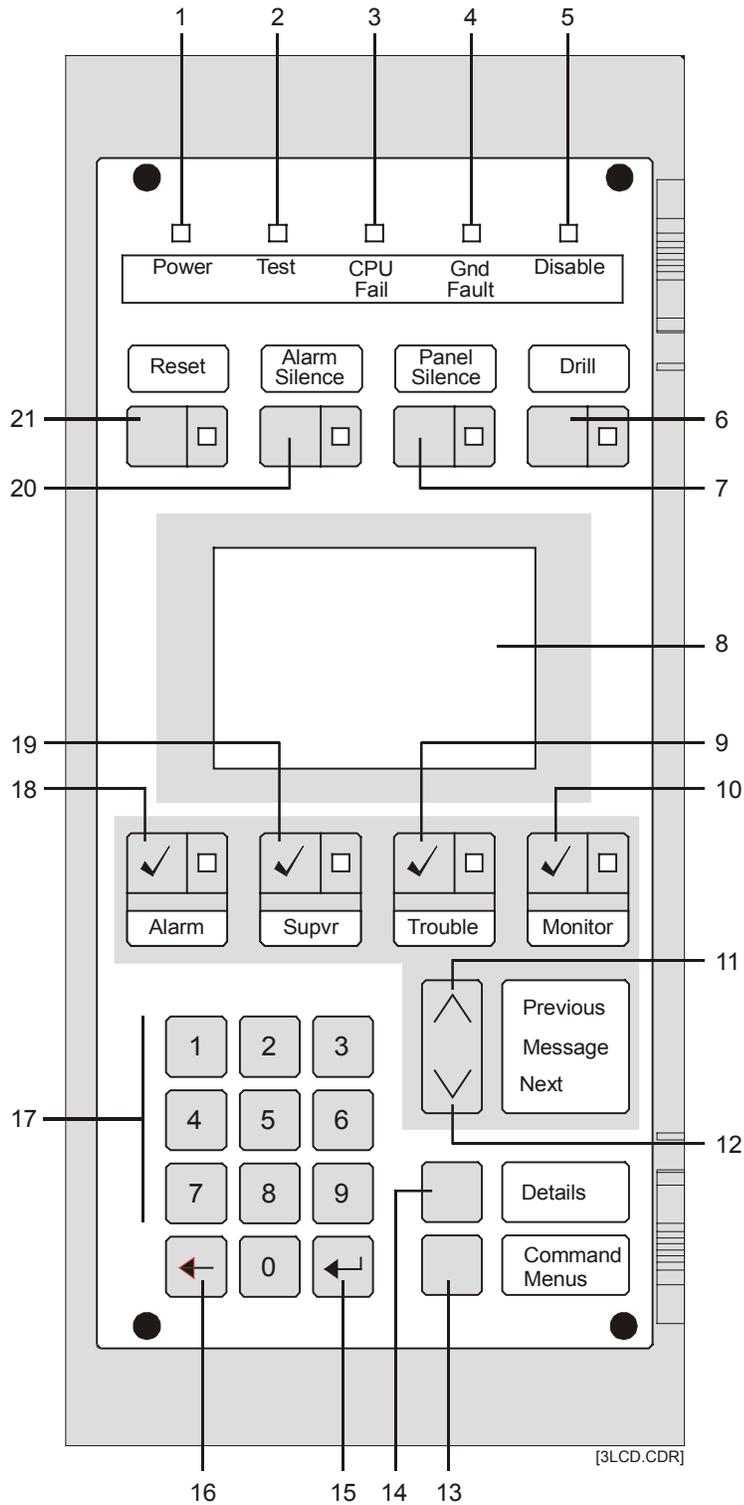

Figure 2-1: 3-LCD controls and indicators
**Functional description of 3-LCD controls and indicators (see Figure 2-1)**